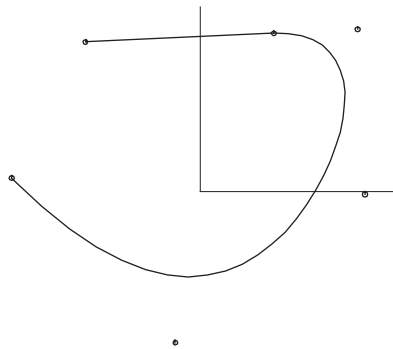

Fig. 7
- 8 **Select 'bead1' and drag it off the end of the line to the right** (Fig. 7). Now you can see that the end ('pt1') and next-to-end ('bead1') control points of the B-spline Curve are in line with the Line, thus making the B-spline Curve tangent to the Line. This join is G1 — there is continuous slope at the join. (To make the join G2 — continuous slope AND curvature, you could add another bead on the line and include it, in sequence, as another control point for the B-spline Curve.)